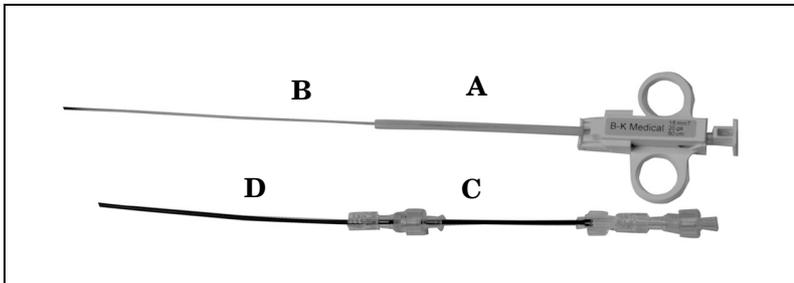

Fig. 14. The components of UA0034
- a flexible stainless steel needle, item A in Fig. 14., 600 mm in length, composed of a cannula, a stylet, and a handle with two finger grips and a plunger. The proximal end of the needle is marked with a black striped pattern for 90 mm along its length;
- a mechanical stop (plastic sheath) attached to the needle handle, item B in Fig. 14.;
- a flexible black Pebax needle guide, item C in Fig. 14., with a sealing tube at the proximal end;
- a medial sealing tube mounted on the flexible needle guide, item D in Fig. 14.
6. Secure the flexible needle guide to the biopsy attachment by inserting the medial sealing tube on the flexible needle guide (item D in Fig. 14.) into the needle insertion point, and turning in a clockwise direction.